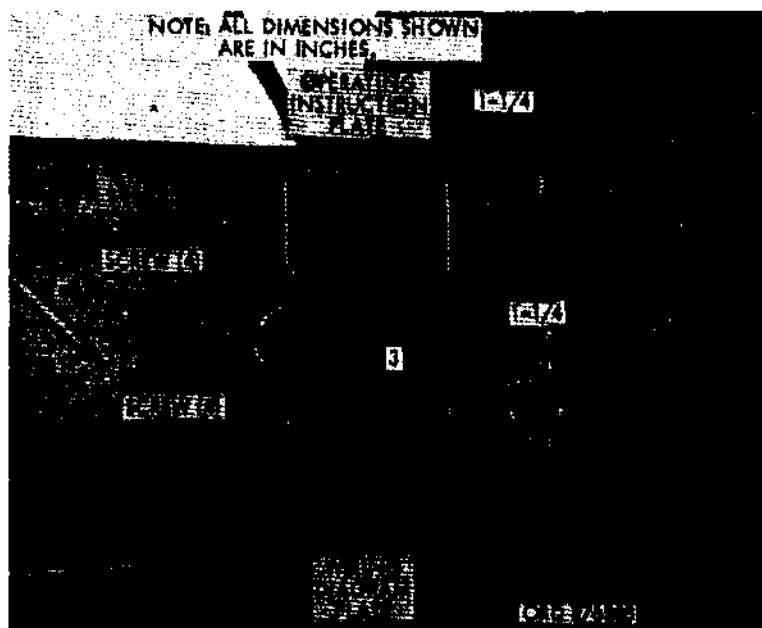

Figure 691. Installation of data and instruction plates.
r. Installation of Data and Instruction Plates (Figure 691).
- (1) Attach operating instruction plate 7951717 to inside of left door, using four No. 10-16 x $\frac{3}{8}$ sheet metal screws MS 96906-24637-33.
- (2) Attach wiring diagram plate 7951661 to inside of left door, using four 10-16 x $\frac{3}{8}$ sheet metal screws MS 96906-24637-33.